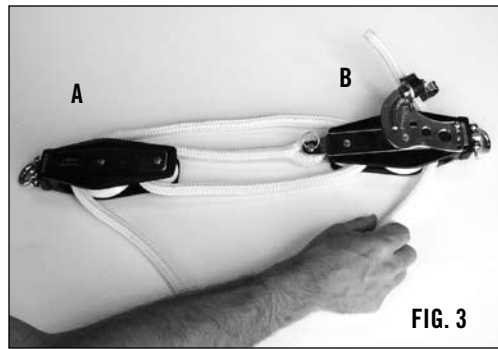

FIG. 3
3. (FIG. 3) Thread the end of the line through A blocks large sheave, followed by block B exiting through the cleat.